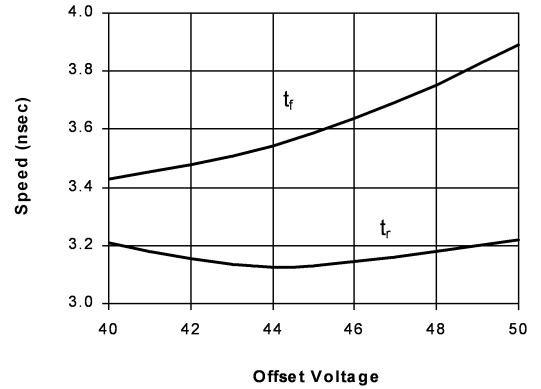

FIGURE 7. Speed vs Offset
*Figure 7* shows the variation in rise and fall times when the output offset of the device is varied from 40 to 50 VDC. The rise time varies less than 0.10 nsec. The fall time varies a little under 0.50 nsec, but only 0.15 nsec from the fastest fall time at 40V offset.